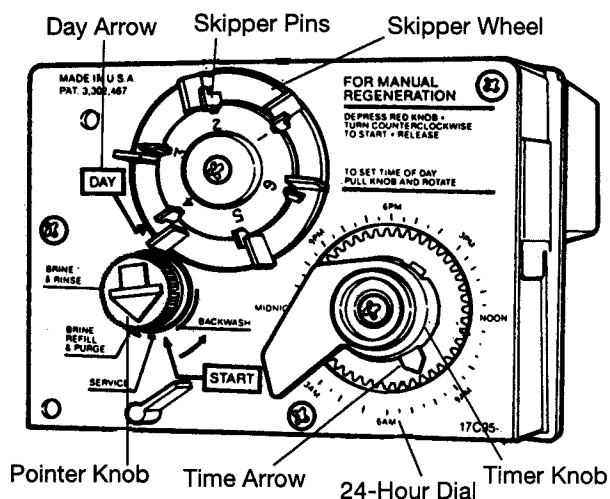

Figure 5
Note: The following steps will require turning the pointer knob. (Figure 5), to various positions. Insert a wide blade screwdriver into arrow slot in pointer knob and press in firmly. With knob held in, rotate **COUNTERCLOCKWISE** only until arrow or knob points to desired position. (Rotation is made much easier if you grasp the camshaft with your free hand and turn it at the same time.) Then permit knob to spring back out.
2. Insert screwdriver into slot in pointer knob. (Figure 5). Press in and rotate pointer knob **COUNTERCLOCKWISE** until arrow points directly to the word **BACKWASH**.
1. Set days of regeneration on skipper wheel (Figure 5).